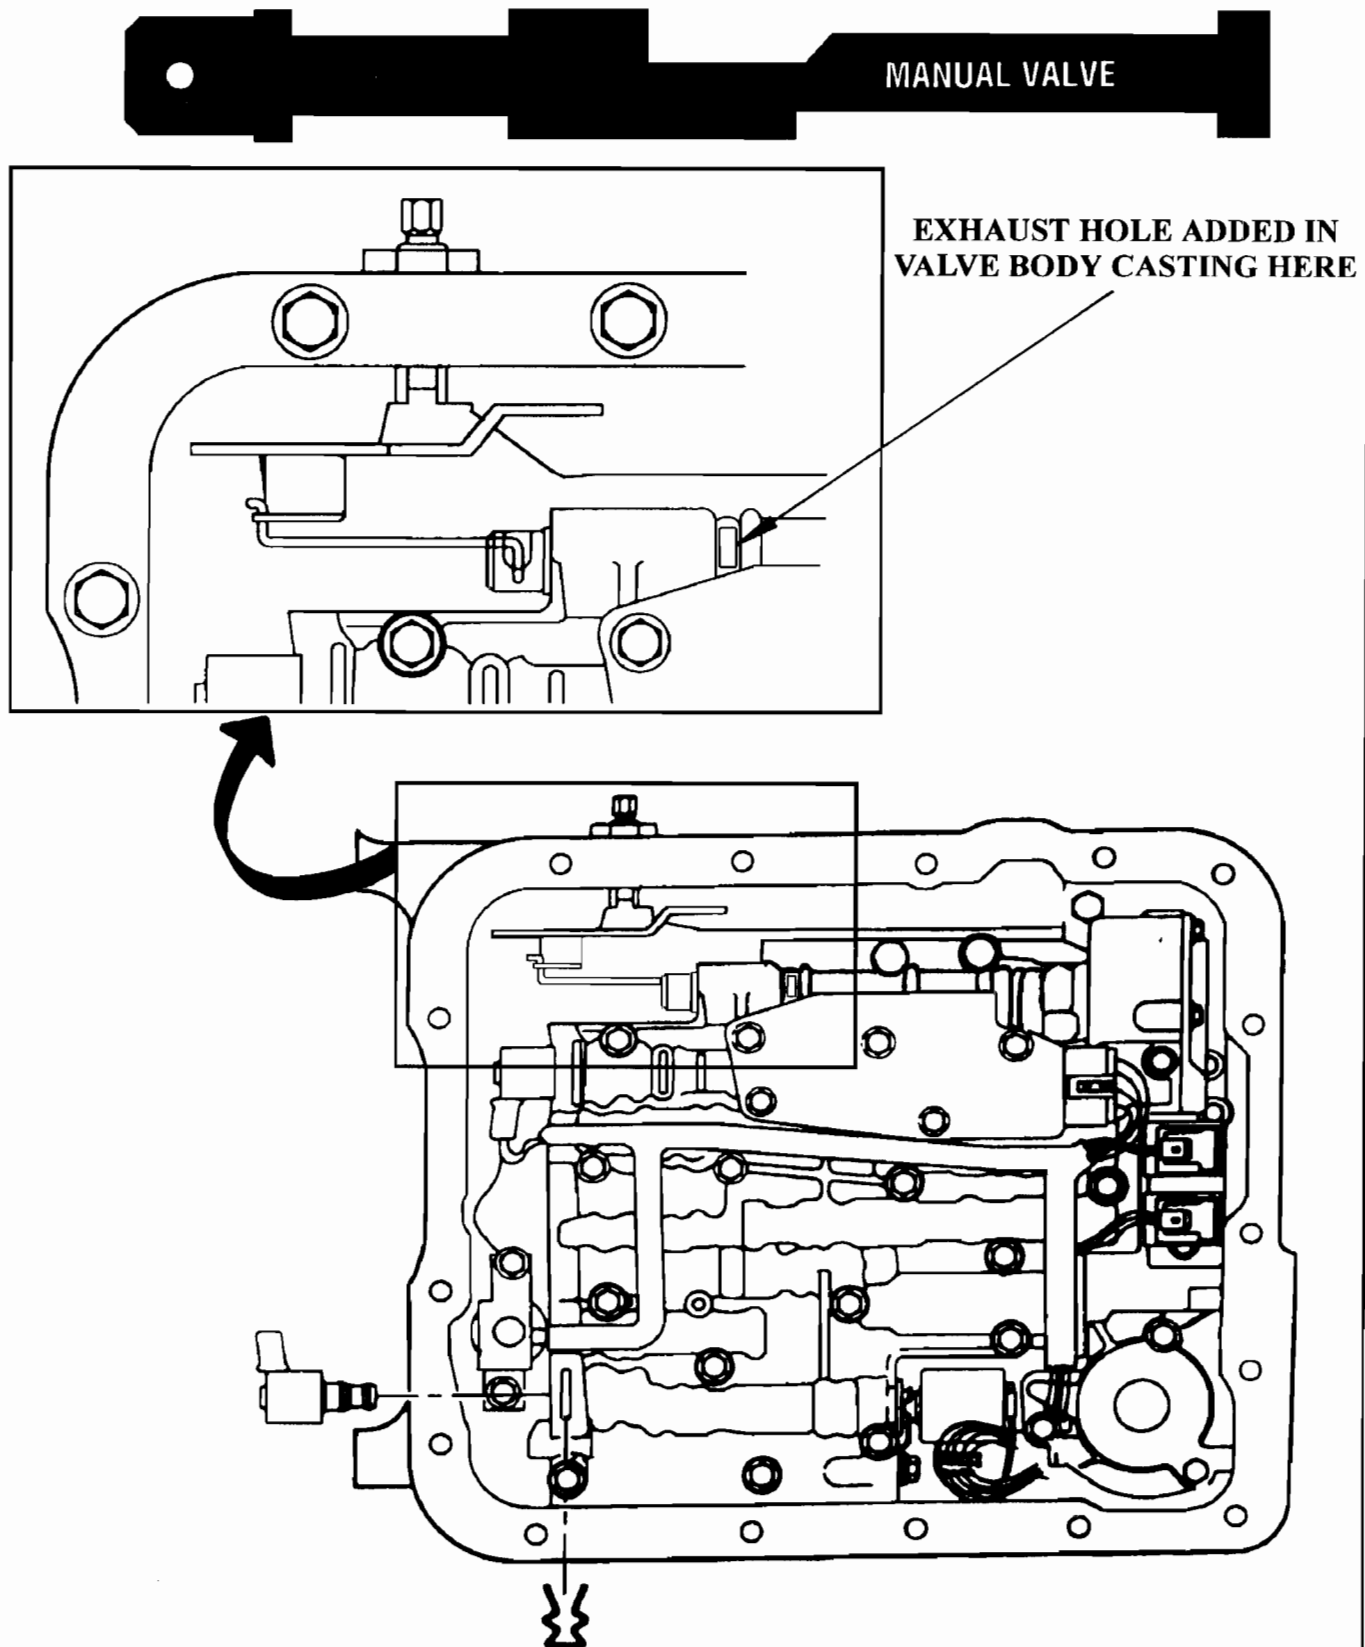

Figure 15
- (1) VALVE BODY CASTING - Added exhaust hole through the valve body casting in the manual valve bore, to exhaust Lo/Reverse clutch oil at a faster rate when the manual valve is in the Drive position. Refer to Figure 14 for 1995 models, and to Figure 15 for 1996 models.
- (2) MANUAL VALVE - Totally different design to accommodate the added exhaust hole in the valve body casting. Refer to Figure 14 for 1995 models, and to Figure 15 for 1996 models.